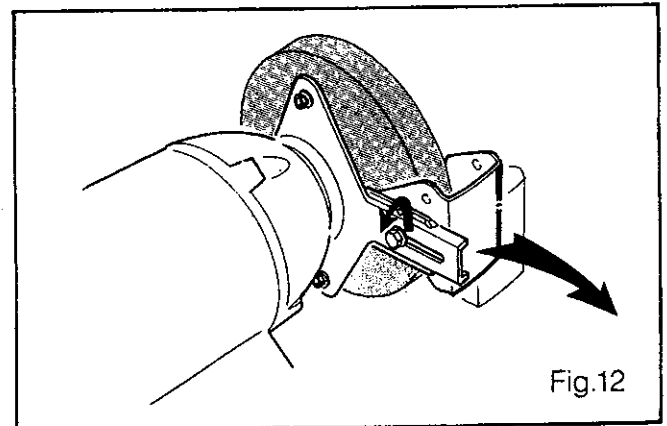

Fig.12
- 4 Take off bolts to slip off connecting plate as figure 12.